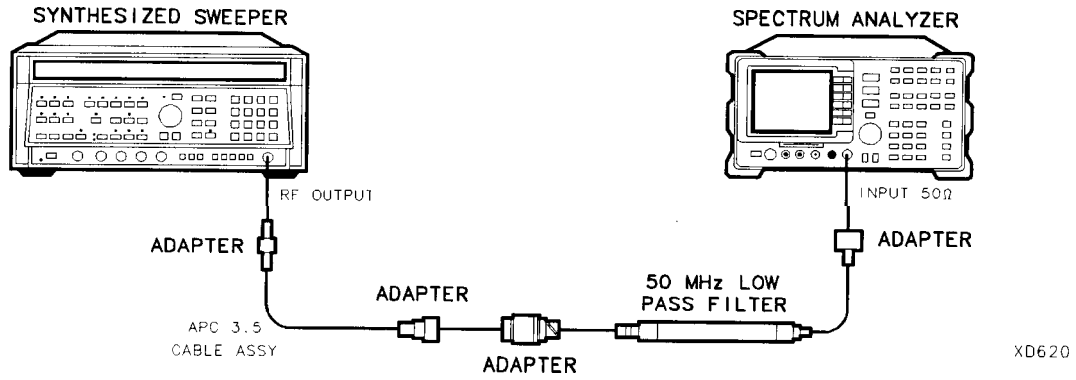

Figure 2-56. Second Harmonic Distortion **Test Setup**
2. Connect the equipment as shown in Figure 2-56.